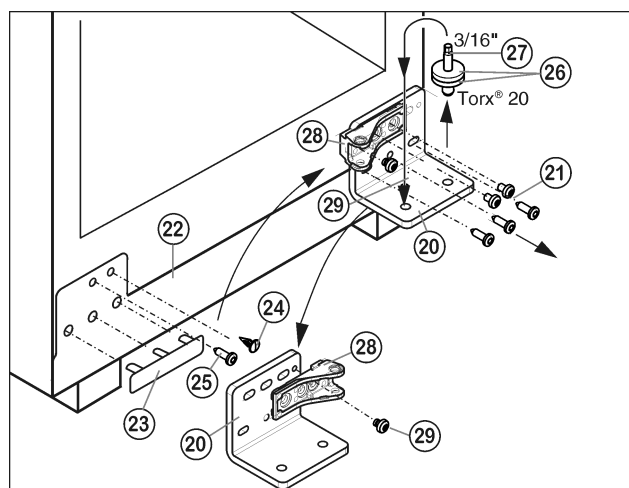

Fig. 21
► Unscrew bearing bracket *Fig. 21 (20)* together with bearing pin *Fig. 21 (27)* (3 x Torx 25) *Fig. 21 (21)*. When doing so, hold panel *Fig. 21 (22)* steady so that it does not drop.
► Carefully lift off the cover on the handle side *Fig. 21 (23)* and the plug *Fig. 21 (24)* and move them to the opposite side.
► Unscrew screw *Fig. 21 (25)* and move it to the opposite side. When doing so, hold panel steady so that it does not drop.
- Unscrew bearing part *Fig. 21 (28)*, turn it 180° and tighten *Fig. 21 (29)*.
- Remove the bearing pin *Fig. 21 (27)*, move it to the other side along with the bearing disc and bearing ring *Fig. 21 (26)* and secure **tightly to 3 lb-ft (4 Nm)**.
- Using a cordless screwdriver if necessary, tightly secure *Fig. 21 (21)* the bearing bracket *Fig. 21 (20)* on the new hinge side again **by applying a screw torque of 3 lb-ft (4 Nm)**. First fit the lower center screw, then the other screws.
- Ensure that the bearing discs *Fig. 21 (26)* are on the lower bearing pin *Fig. 21 (27)*.
- Position the door from above onto the bearing pins below *Fig. 21 (27)*.
- ▶ Unscrew center screw on lower part of bearing bracket *Fig. 21 (20)*.
- ▶ Align the doors flush with the appliance housing using the two oblong holes in the lower bearing bracket *Fig. 21 (20)* as a guide if needed.